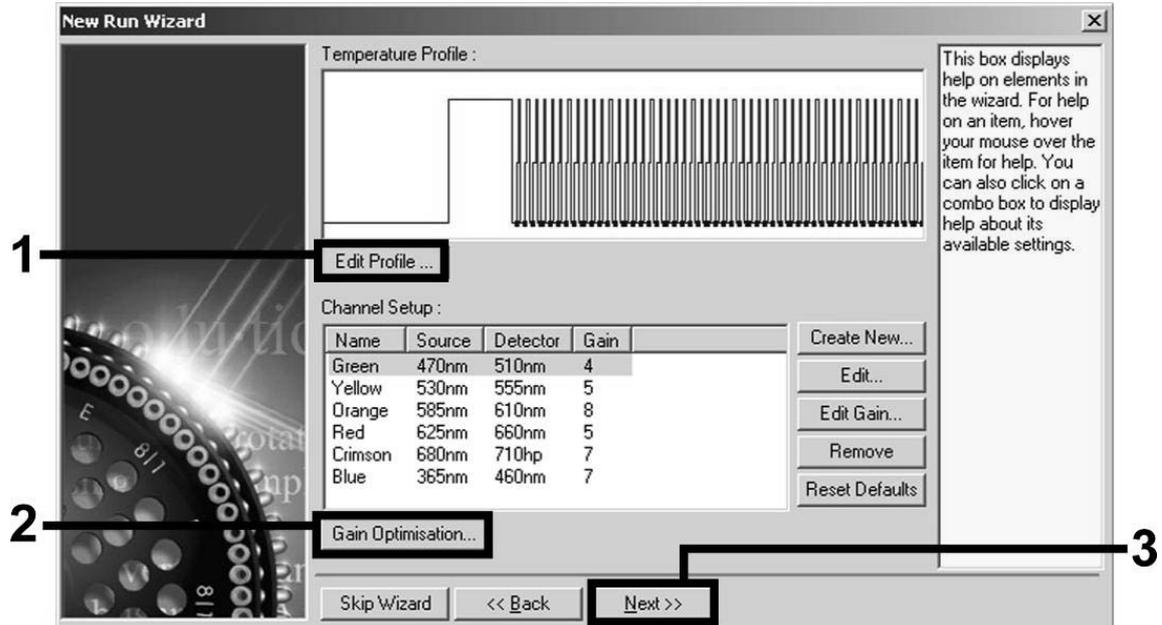
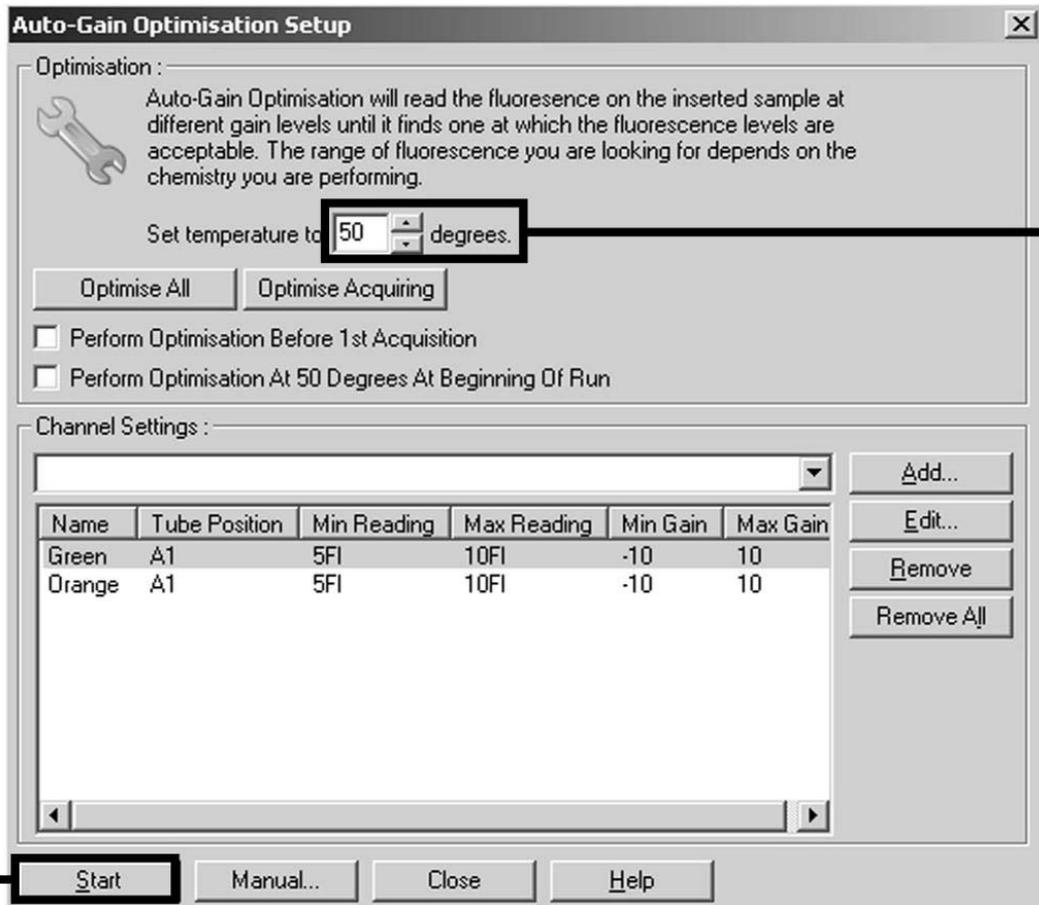

Figure 9. Editing the profile.
Figure 13. Adjusting the fluorescence channel sensitivity.
Adjusting the fluorescence channel sensitivity	Figure 13
- Click the “Edit Profile” button in the next “New Run Wizard” dialog box (Figure 9), and program the temperature profile as shown in Figures 9–12).
7. The detection range of the fluorescence channels has to be determined according to the fluorescence intensities in the PCR tubes. Click "Gain Optimisation" in the "New Run Wizard" dialog box (see Figure 9) to open the "Auto-Gain Optimisation Setup" dialog box. Set the calibration temperature to 50 to match the annealing temperature of the amplification program (Figure 13).